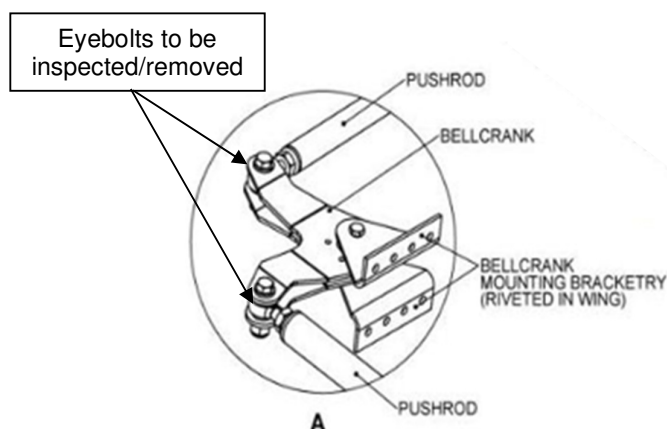

Figure 9: Aileron bell-crank assembly
- Step 9. Refer to Figure 9 and remove the AN4 locknuts and bolts.